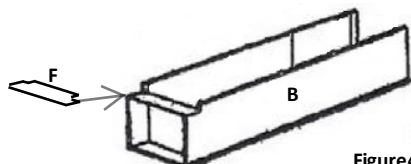

Figure 4
- Installing the Toe Kick (F):** Place the toe kick (F) at the end of side panels (B). Align each cam lock on the toe kick and lock them. (Figure 4)